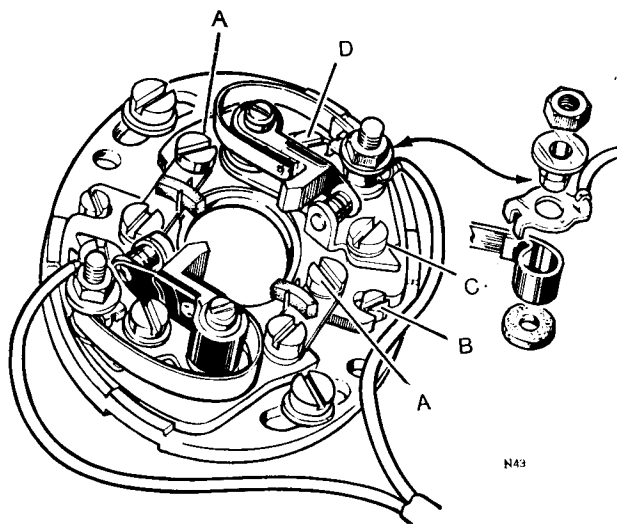

Fig. C50 Lucas contact breaker
11 Using the same technique, check that the contact breaker points open at 28° B.T.D.C. on the firing stroke for the second cylinder. If incorrect, make adjustment by movement of the secondary backplate. To do so, slacken screws (A) in *Fig. C50* and use the eccentric headed adjusting screws (B) to move the mounting plate. When timing is correct, re-secure the screws (A).
- 8 If timing is incorrect for the left cylinder, correct by slackening off the clamping screw for the secondary backplate for this set of points then use the eccentric headed adjusting screw to move the secondary backplate (see *Fig. C50*—secondary backplate screws are marked "A" and eccentric screws are marked "B"). Recheck timing with the stroboscope and when correct, secure the screws "A".
The Lucas 6 CA contact breaker was fitted to Commandos produced prior to 1973. All 1973 750's and all 850's have the Lucas 10 CA contact breaker assembly. Both systems have a separate and independently adjustable contact set for each cylinder, see Fig. C50. Each contact set is mounted on its own crescent-shaped assembly plate that is fixed to the circular base plate by two screws (A). When these screws are loosened, the assembly plate can be moved in relation to the ignition cam (and the base plate) by the eccentric screw (B). This permits a very accurate setting of ignition timing for each cylinder.